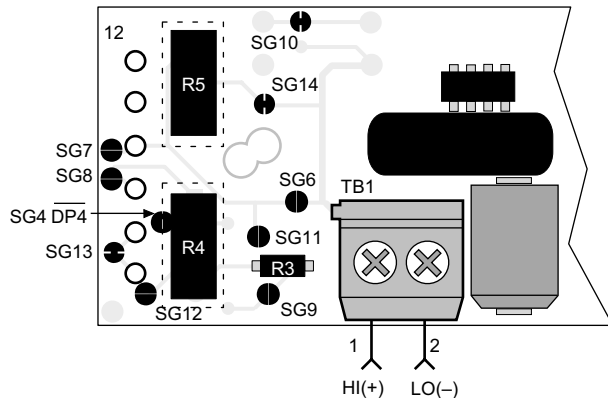

Figure 3. R4 and R5 Installation
- 2. Span (Gain) and Zero (Offset) Adjustments** (See Figure 3): DATEL offers a resistor accessory kit, part number RN-DMS, consisting of 20-turn potentiometers R4 (2K Ohms) and R5 (50K Ohms) and leaded resistor R3 (10.5K Ohms). However, the leaded resistor supplied with the RN-DMS accessory kit is not needed with the DMS-EB-AC/DC since it contains a factory-installed 10.5K Ohm chip resistor. Once installed, these potentiometers permit the span and/or zero adjustments described in the following sections. R4 provides span adjust, while R5 applies a positive offset to the meter's (-) IN LO input.